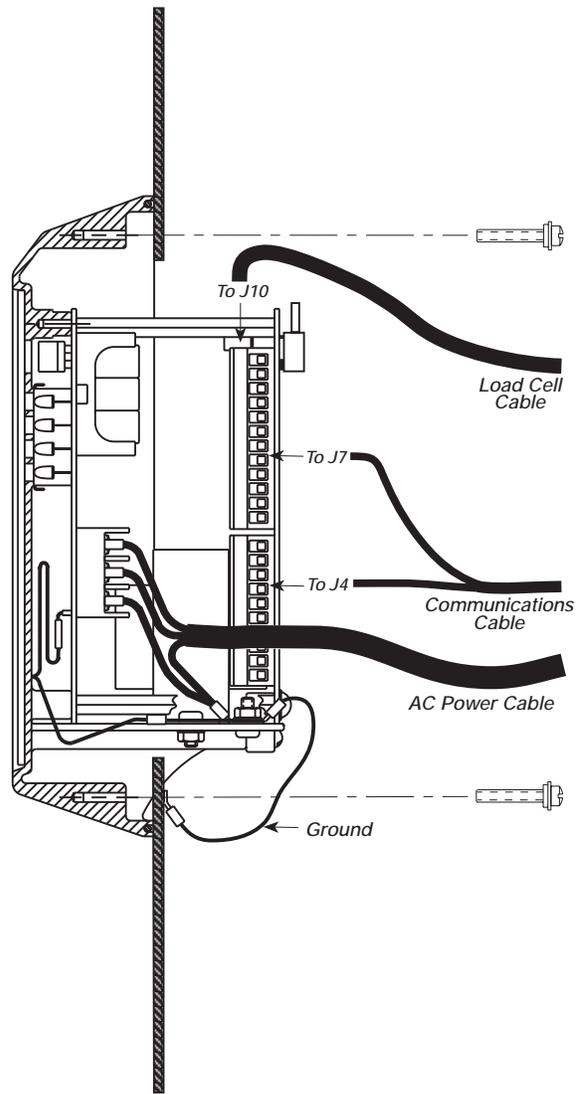

Figure 2-9. IQ plus 810 DT Panel Mount Wiring
6. Attach the ground wire that was connected to the lug on the indicator body to one of the five screws (see Figure 2-9).